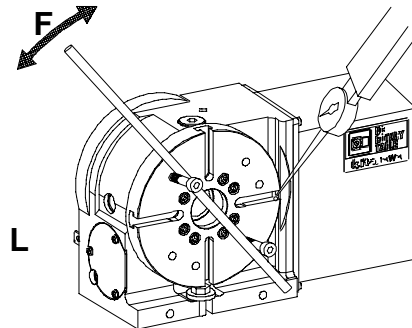

Fig.2
### 10-1. Measuring the Backlash of the Worm Gear [See Fig.2]
- 2) Turn the table slowly by using the tap on the surface of the table as shown in Fig.2. And read the value of the dial gauge when tooth of the worm wheel makes contact with a worm shaft. At this time, the rotating torque added to the table is as follows. Then, rotate the table on the same conditions to the opposite direction. The difference of these measurements is the amount of backlash.